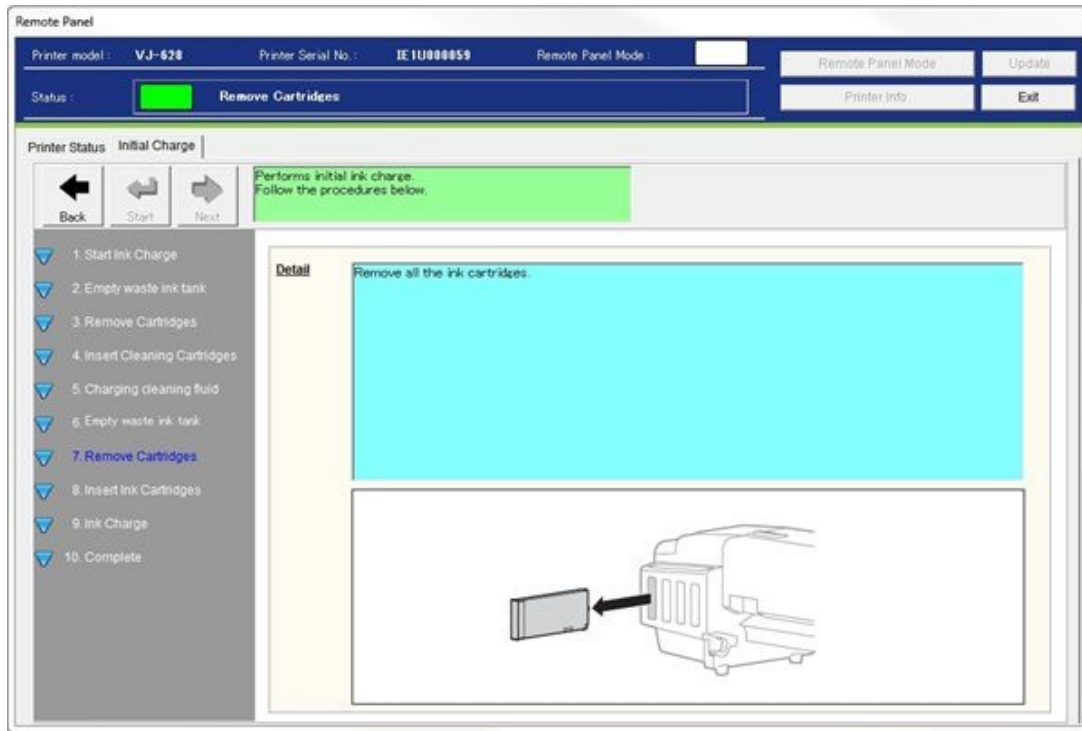

Figure 59
46. You will be prompted to remove the cleaning cartridges. See Figure 59.